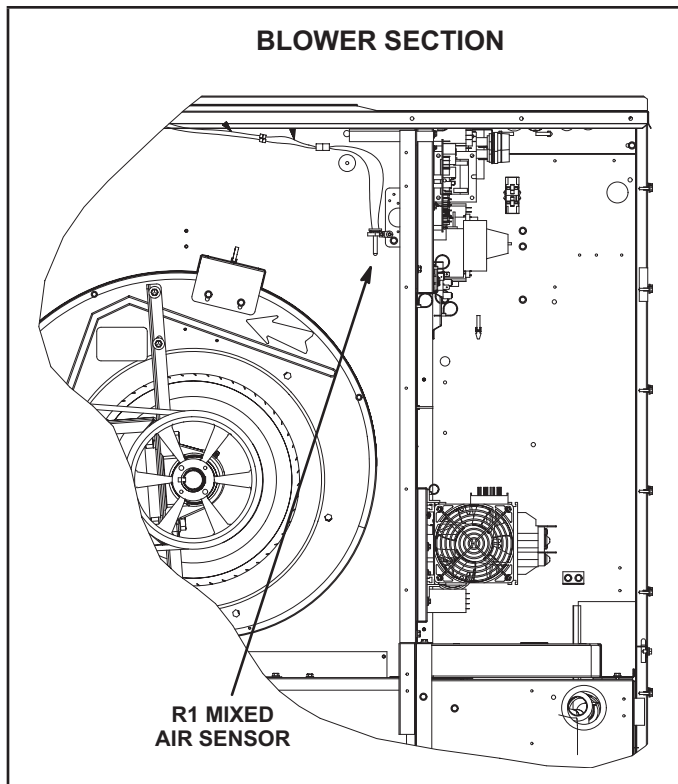

FIGURE 36
- 2 - Install sensor on bracket as shown in figure 36 and 37.